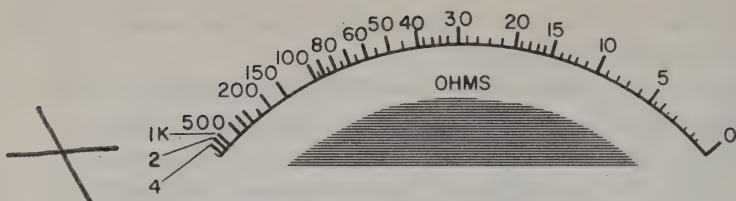

Fig. 1-5. A typical resistance scale.
Fig. 1-5 shows an example of a nonlinear scale. It is nonlinear because the divisions or marking lines on the scale are not spaced evenly. Notice how crowded the scale becomes toward the left. The value of each division also becomes greater in this direction. Each large division mark between the numbers 0 and 5 has a value of 1, but there is only one division between 40 and 50, indicating a value of 45.
set control is adjusted so that our meter pointer is right on the last division on the far right side of the scale. Next, the test probes are placed at the opposite ends of resistor (R). Let us say that this resistor has a value of exactly 1,000 ohms. What have we done? We have inserted this new 1,000-ohm resistor in series with our circuit and doubled the total circuit resistance. If the resistance is doubled, the current is reduced to one half. Therefore the meter pointer, instead of being over at the far right, will come to rest somewhere else on the scale. We can mark this point with the number 1,000, since it is the exact value of the resistance measured. And so we can begin to set up a resistance scale of the kind exhibited in Fig. 1-5.